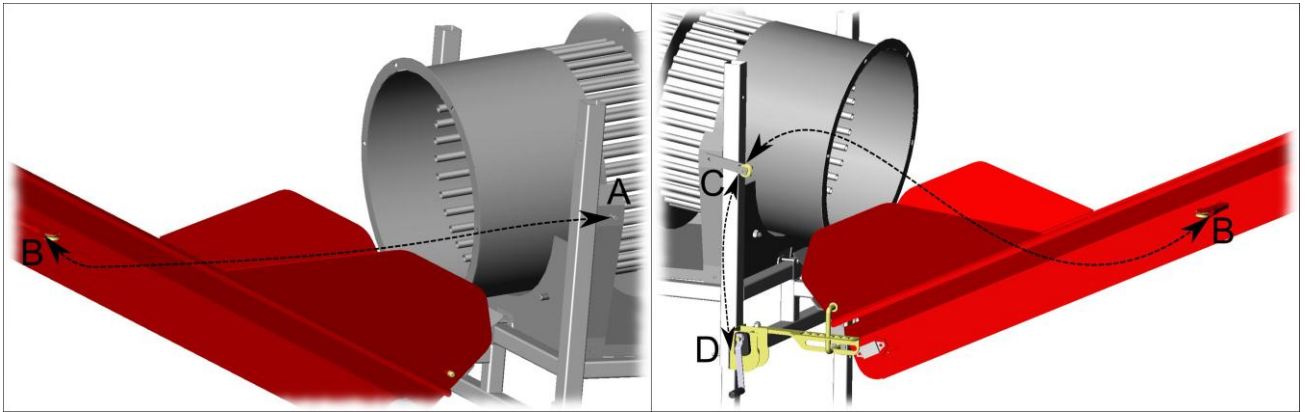

Fig. 5.
- ❑ Fix the wire loop to the bolt A (Fig. 5).
- ❑ Thread the wire through the pipe B located behind the rollers on the conveyor (Fig. 5).
- ❑ Thread the wire via the roller C (Fig. 5) to the winch D (Fig. 5).